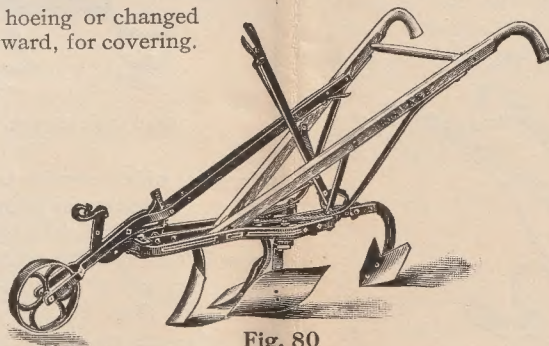

Fig. 80
**Range of cultivation.** When used as cultivator, expands to 30 inches and closes to 14. Teeth attached to hoe standards in same position as side hoes in Fig. 80, are 11 inches apart.
As a furrower for manure, etc., No. 6 can be set as in Fig. 80 with the ratchet castings reversed on inside of the frame bars, bringing the hoes together.